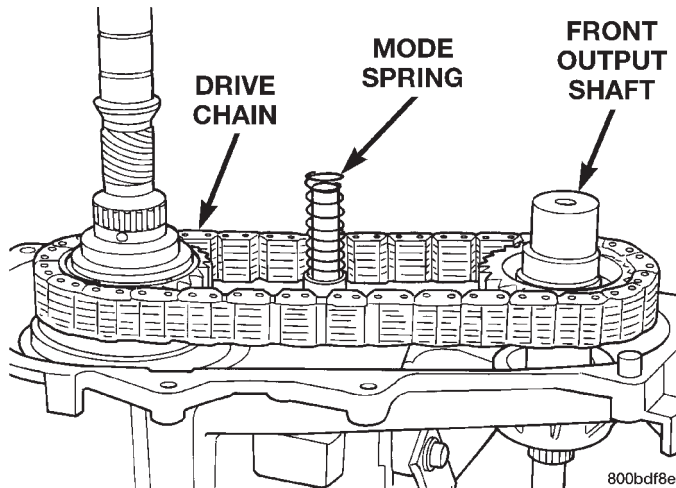

Fig. 64 Front Output Shaft And Drive Chain Installation
- (1) Lubricate chain and front shaft with automatic transmission fluid.
- (2) Install drive chain on front output shaft.
- (3) Lift chain and shaft upward and start chain around mainshaft drive sprocket.
- (4) Install front output shaft. Tilt shaft and insert it into front bearing. Then work shaft and drive chain into place (Fig. 64).
- (5) Install mode spring on upper end of mode fork shift rail (Fig. 64).